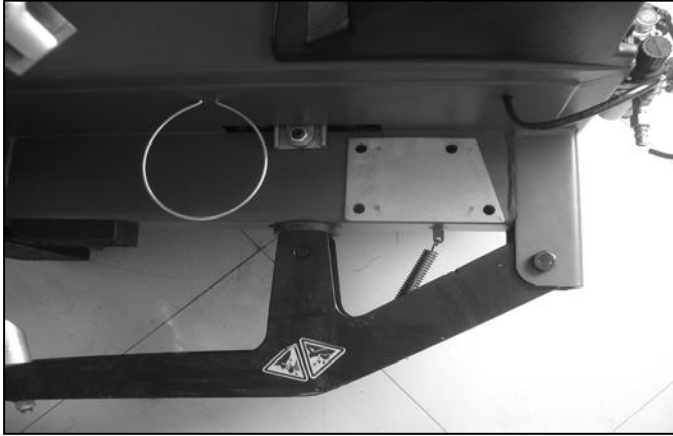

FIG54
6.3.2 First, place the cushion (fig52-4) on the indicated position on the U-steel (fig54) to make the 4holes of the cushion aligned.